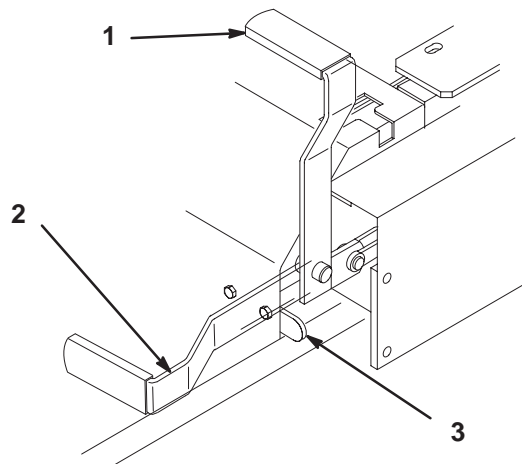

Figure 15
2. Pull back and up on the parking brake lever to set the parking brake (Fig. 15). The parking brake lever should stay firmly in the **engaged** position.
1. Push forward and down on the parking brake lever to release the parking brake (Fig. 15). The parking brake is **disengaged** and the lever will rest against the brake stop.